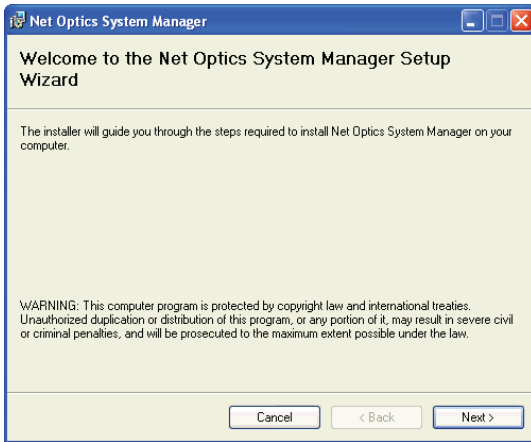

Figure 20: Welcome Dialog Box
3. After reading the agreement, select **I Agree** and click **Next** to install System Manager. The Welcome dialog box appears as shown in Figure 20.